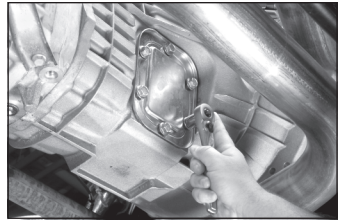

Fig. 2
3. Remove the transmission P.T.O. aperture cover and gasket. Make sure the aperture surface is clean and dry (Fig. 2).